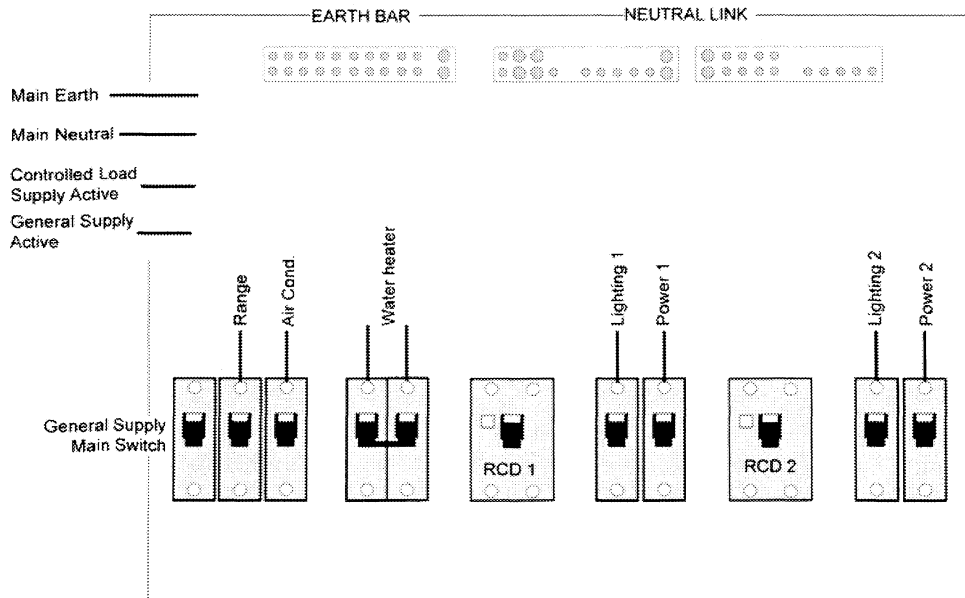

Figure T.4
4. In the main switchboard represented in Figure T.4 draw the supply and internal connections and identify the terminal to which the active and neutral conductor of each subcircuits is connected. One RCD is to protect the power circuits and one to protect the light circuits. All other circuits are to be protected by individual MCBs.